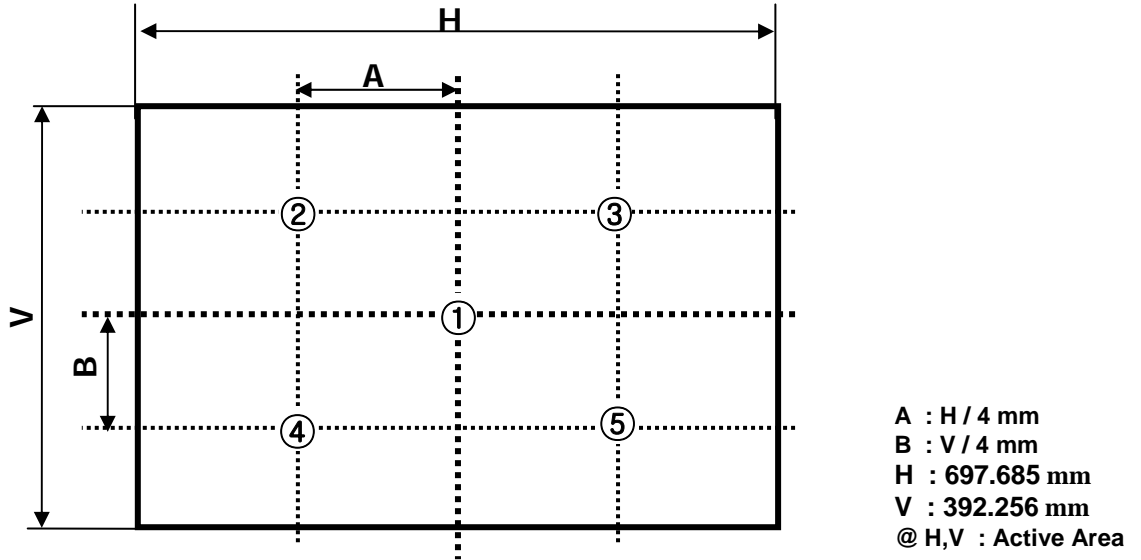

FIG. 2 5 Points for Luminance Measure
n = the Position number(1, 2, 3, 4, 5). For more information, see FIG. 2.
2. Surface luminance are determined after the unit has been 'ON' and 30min after lighting the backlight in a dark environment at  $25 \pm 2^\circ\text{C}$ . Surface luminance is the luminance value at center 1-point across the LCD surface 50cm from the surface with all pixels displaying white. For more information see the FIG. 2.
For more information, see the FIG. 2.